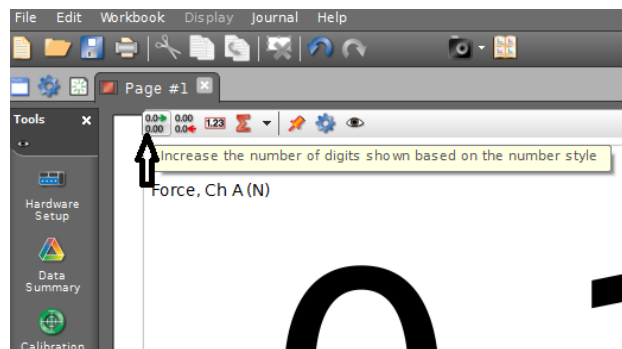

Figure 1: Digital display toolbar. Increase number of digits.
3. For today's lab you do not need to graph the force sensors over time. Instead, drag the **Digits** icon from the "Displays" menu, on the right hand side, to the main page area. This will give you a digital readout of the force sensor data for any given time. Repeat this step to create two **Digit** displays, one for each force sensor on the meter stick. In the "Select Measurement" icon choose "**Force Channel A (N)**" and "**Force Channel B (N)**" in the two Digit displays.
4. Remove the meter stick from the force sensor hooks, click on **Record** button, and tare each force sensor without any added weight to establish zero. Next, measure a mass on the scale. Then hang this known mass on each force sensor to verify that it is reading correctly. If you need to increase the precision of the display, hover the mouse over the "**increase digits**" icon shown in the Figure 1. This will increase the number of significant figures.